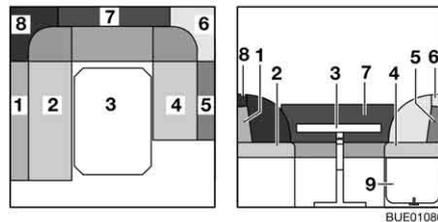

Fig. 95 Prior to conversion
- Convert the table (Fig. 95,3) to a bed foundation (see section 6.12).
- Unlatch and fold up the bedding box extension (Fig. 95,9).